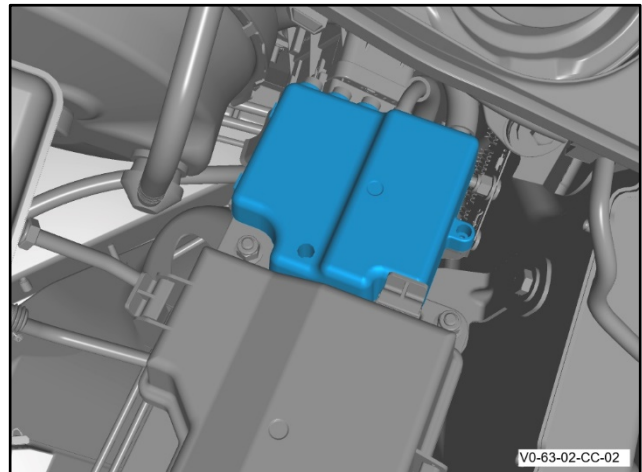

Figure 2
4. Remove the cover for the fuse box (refer to Figure 2).